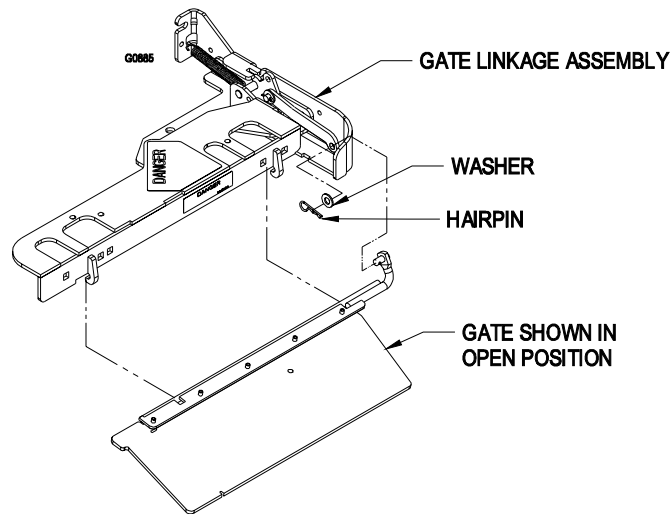

FIGURE 10
3.2.11 Hook the gate assembly (item 16) to the gate linkage assembly (item 12). Install the washer (item 15) and fasten with the hairpin (item 14) as shown in Figure 10.